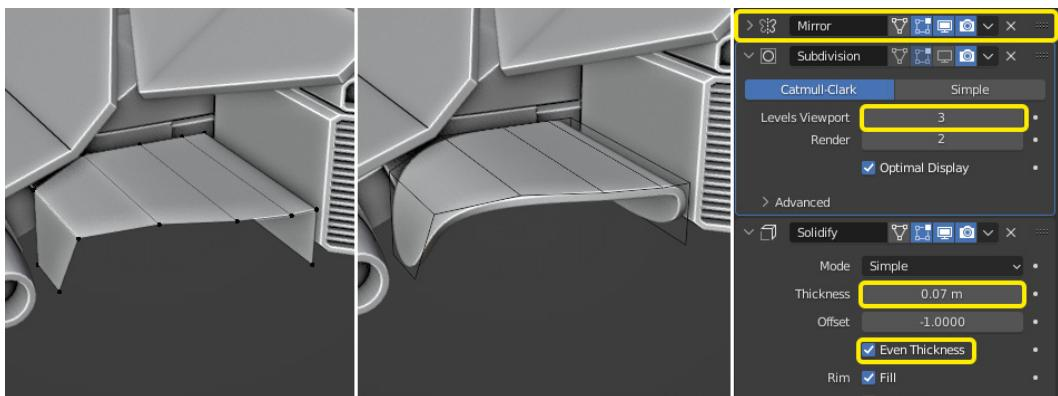

Figure 5.55 – Diffuser
4. Add an object to the side of the wing to make this part of the ship appear bulkier. Feel free to get creative and make the shape different from what you see in *Figure 5.55*.